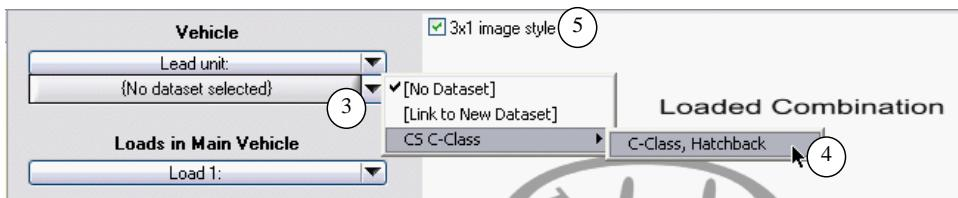
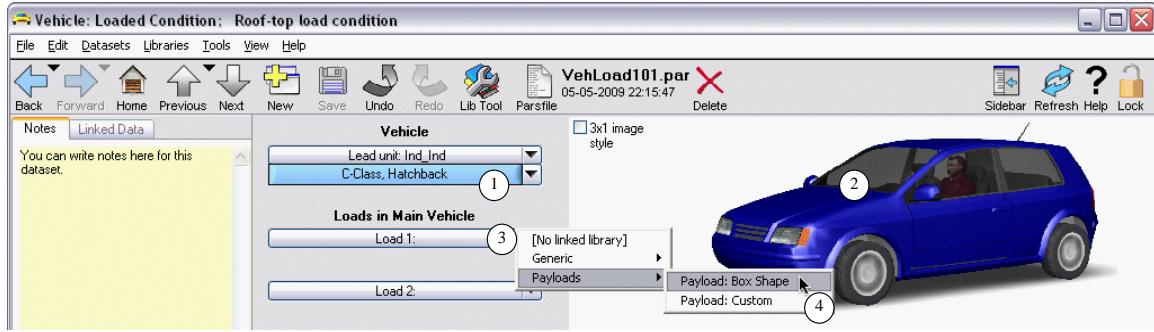

Figure 31. Select the vehicle assembly dataset for the C-class hatchback.
Figure 32. Select the **Payload: Box Shape** library.
This action should immediately display more controls underneath ③ (Figure 31). Use the drop-down dataset control ③ to view the datasets in the **Vehicle: Assembly** library, and choose **CS C-Class->C-Class, Hatchback** ④. The screen changes (Figure 32); the selected dataset is now named in the blue link button ① and the image is updated to show the hatchback ②.